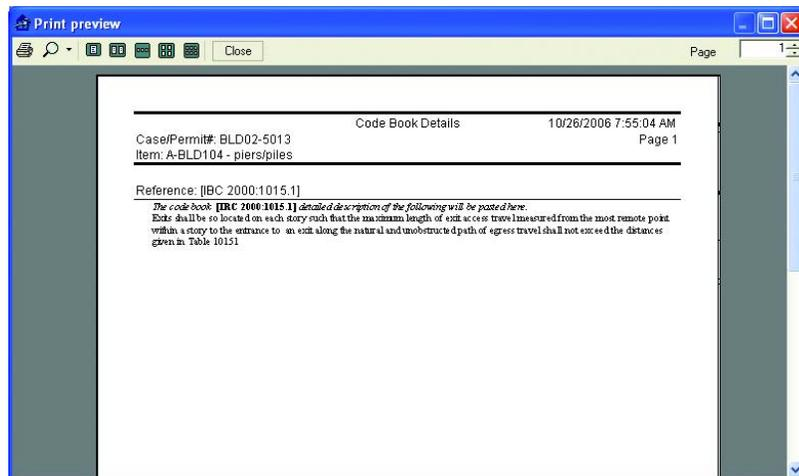

Figure 4-10 Print Preview window displaying a Code Details document
- Once you've selected the appropriate code book language from the Code Book Details window, click **Print**. The Print Preview window displays (Figure 4-10).